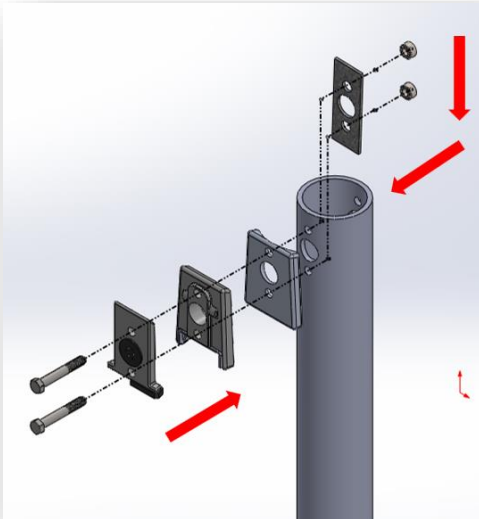

Fig.2
- Slip plate into top of pole and align to holes on pole making sure that pole plate is flush to inside of pole wall, then Align (2x) screws and the provisions of the Castings, Pole, Nut Plate and Nuts (Fig 2).